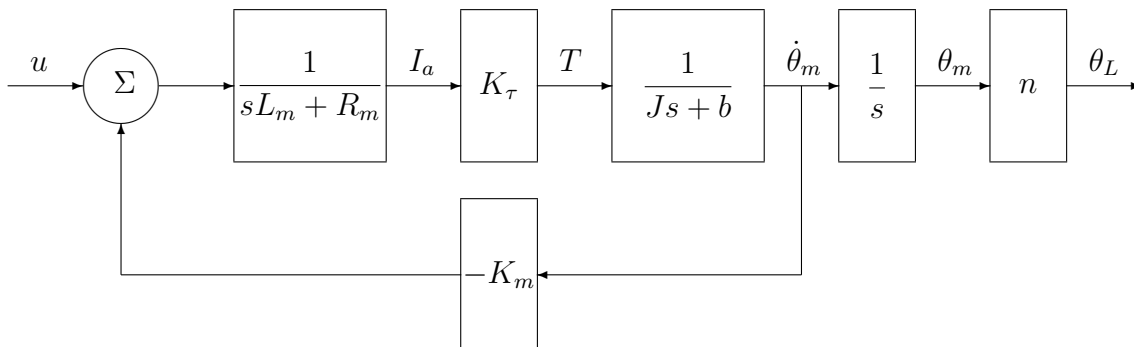

Figure 2: Block diagram of robot arm.
The block diagram for the robot arm is given in Figure 2.
Table 1: Descriptions and definitions of constants in Figure 2
**Assignment 1.** Based on the block diagram in Figure 2, and the parameter values in Table 1, calculate the transfer function of the robot arm first analytically and then print it out with numerical values.
**Assignment 10.** Again study the block diagram of Figure 2. Find the state space description of the system with the states  $x_1 = \theta_L$ ,  $x_2 = \dot{\theta}_m$  and  $x_3 = I_a$ . Compute the matrices  $A$ ,  $B$  and  $C$  analytically (*do **not** use Matlab, this should be done by hand calculations*)